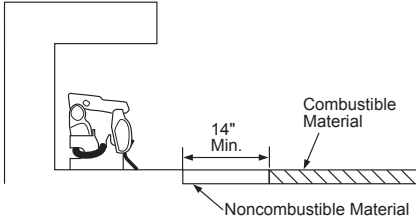

Figure 8 - Minimum Fireplace Clearances if Installed at Floor Level
A. If installing appliance on the floor level, you must maintain the minimum distance of 14" to combustibles (see Figure 8).